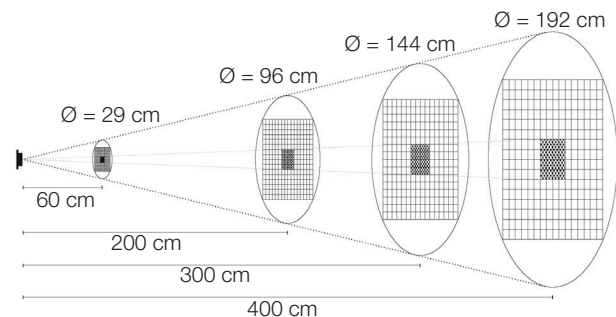

Fig. 4-2: Monitored area (ToF window)
- The ToF sensor has a viewing range of 40 to 4000 mm and an exit angle of  $27^\circ$ . Depending on the distance to the respective object, this results in a corresponding area (ToF window) that can be monitored (see Fig. 4-2).